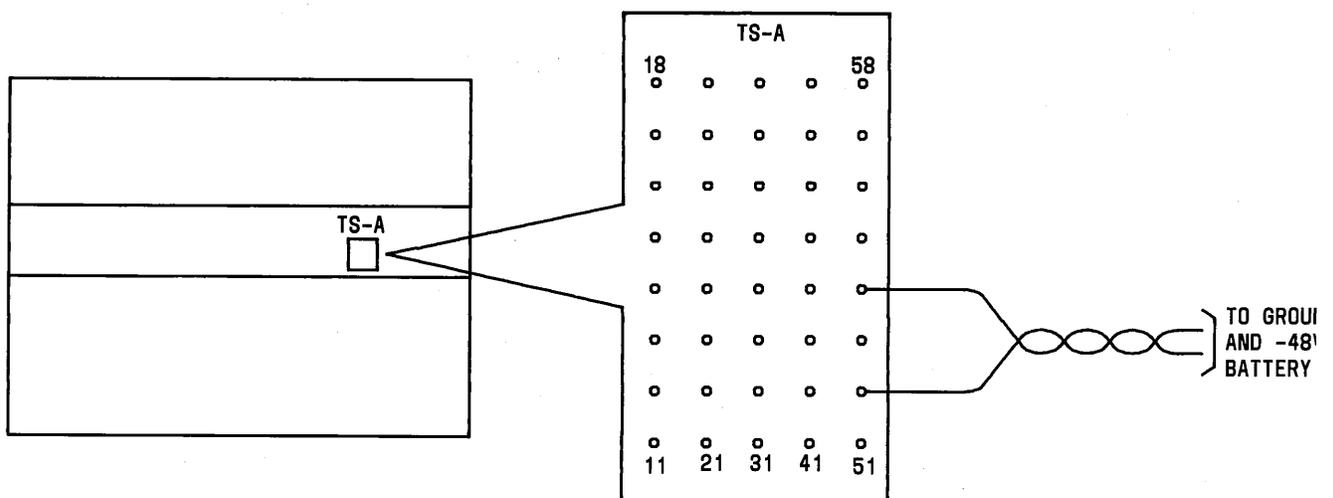
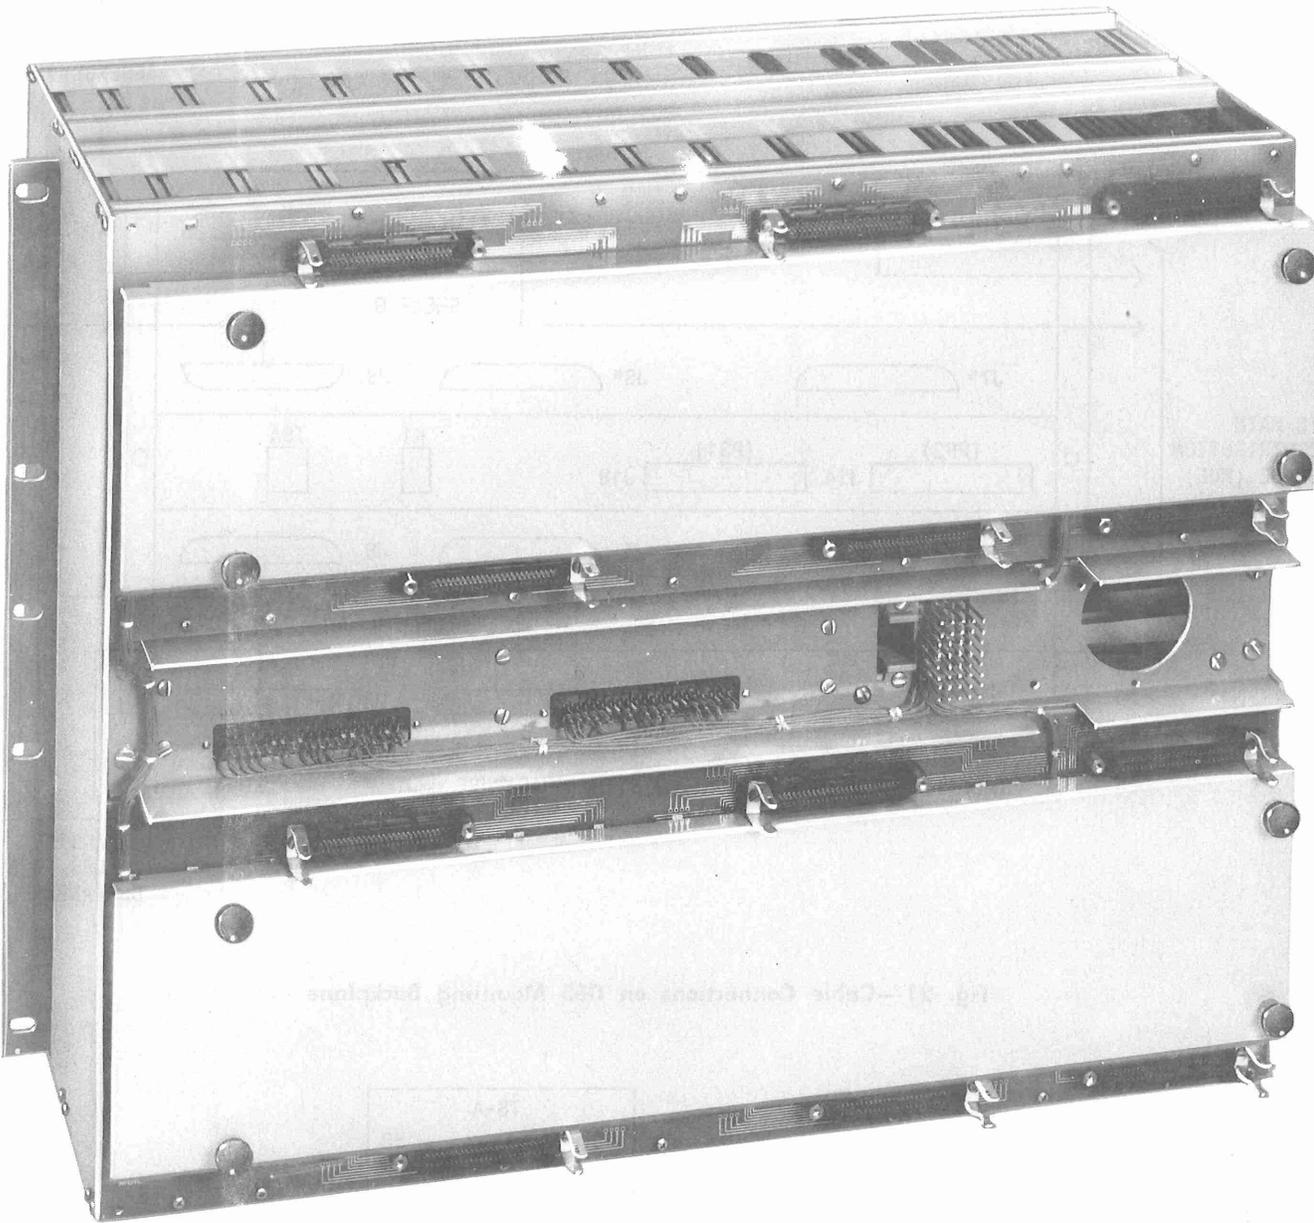

Fig. 22—Power Connections at TS-A Connector
Fig. 23—DSS Mounting Backplane
- (3) Make power connections from central office battery to terminals 51 and 53 of terminal strip TS-A (Fig. 22). Fig. 23 shows the J70180AA DSS 2-shelf unit backplane.
4.03 Power distribution Panel: The functions of the pushbuttons and indicators on the power distribution panel are given in Table B. Power supply (RG3 CP and RL10 CP) functions are included in the table. The pushbuttons and indicators operate as follows. The major alarm (MJ) indicator indicates a local alarm condition and will remain on until the alarm condition is cleared. The FA indicator goes on to indicate a fuse failure. If a power supply fails the red ALARM indicator on the power supply goes on. The green IN SERVICE indicator goes off. Depressing the alarm cutoff (ACO) pushbutton silences the central office audible alarm. This pushbutton locks under control of the local alarm condition. The ACO indicator goes on when the ACO pushbutton is depressed. When the alarm condition is cleared, all indicators that are on go off and the ACO pushbutton releases. The alarm condition may be cleared by replacing a fuse or power supply, or by depressing the reset pushbutton on the RG3 CP. When a power unit failure is cleared by depressing the RESET pushbutton, the power supply in service continues to be in service. The green IN SERVICE indicator goes on to indicate a power supply is in service. An over voltage or under voltage condition causes the power supply IN SERVICE indicator to go off and the ALARM indicator to go on. This condition also signals trouble to the central office alarm circuit and the MJ indicator goes on. The voltage monitoring and switching circuit of the RG3 or RL10 CP disconnects the power supply from the -48-volt source. If dualized power (RG3 CP only) is provided, the backup power supply will automatically take over operation. Failure of an RG3 CP may